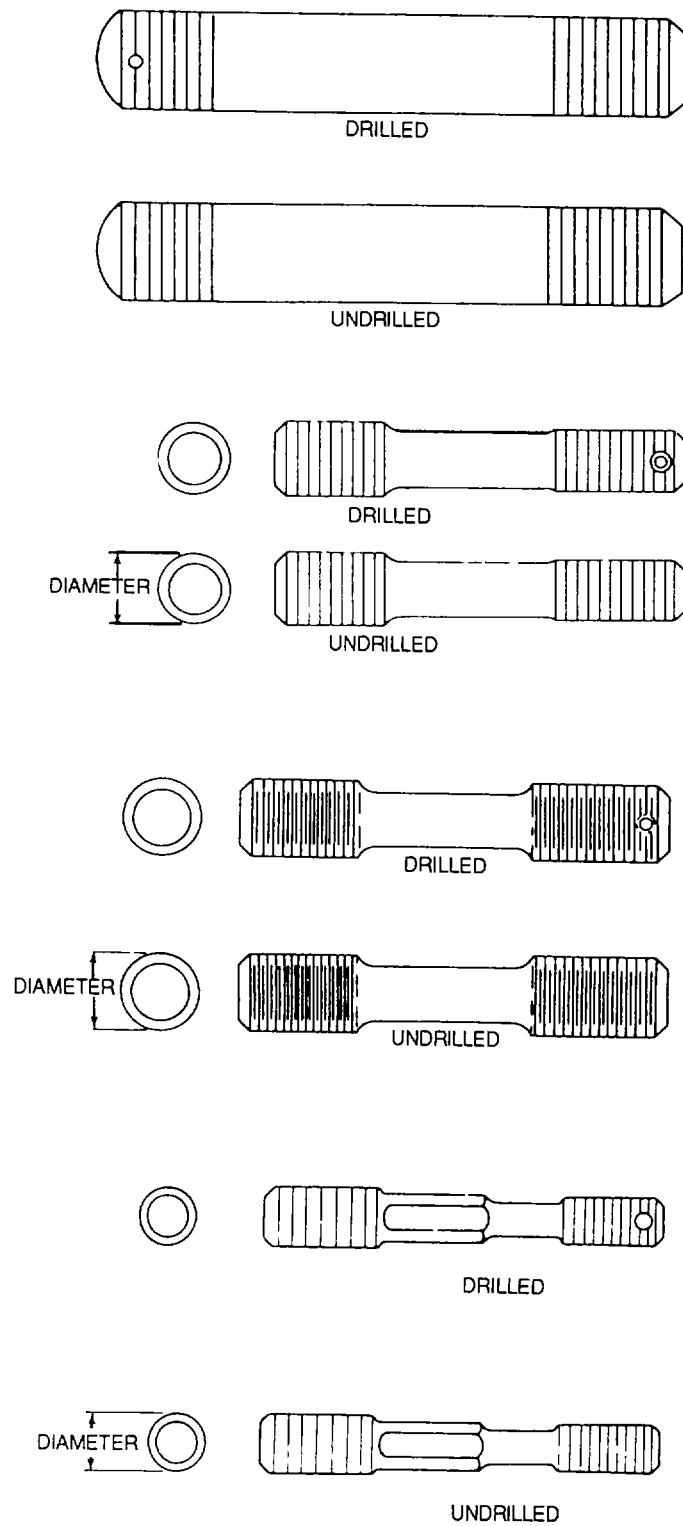

Figure 2-63. Stud Types
**2-10. Studs.** The type studs used in aircraft structure are coarse thread studs, fine thread studs, stepped studs, necked stepped studs, wrench pad necked stepped studs, lockring studs, and self-tapping lockring studs. Studs are available either drilled or undrilled on the nut end. Figure 2-63 shows some stud types.